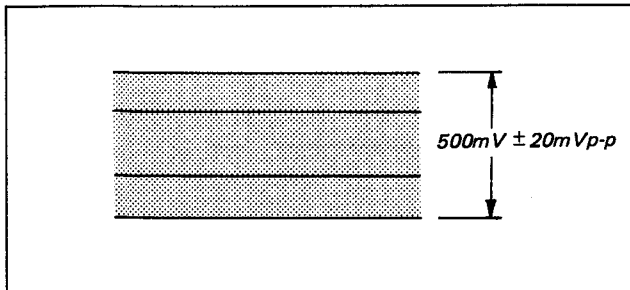

Fig. 5-26. Y record current adjustment
- i) Adjust to $500\text{mV} \pm 20\text{mVp-p}$ with RV1. (See Fig. 5-26.)